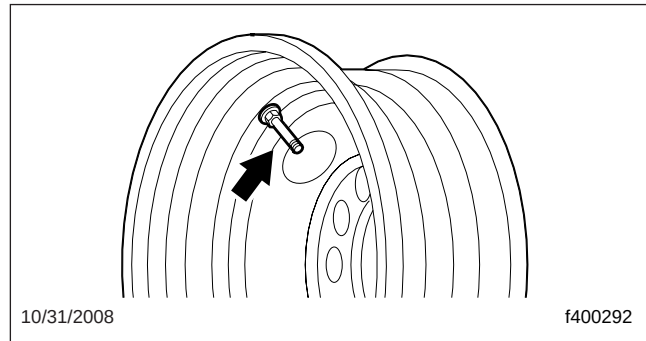

Fig. 4, Valve Stem Installation
- 1.2 Screw the valve nut onto the stem from the opposite side. Make sure the rubber bushing and metal collar or nut are centered and fit snugly in the valve hole. See **Fig. 4**.